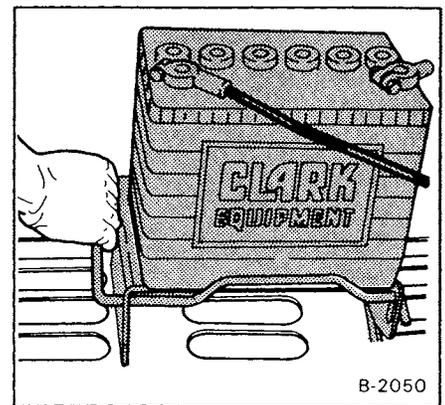
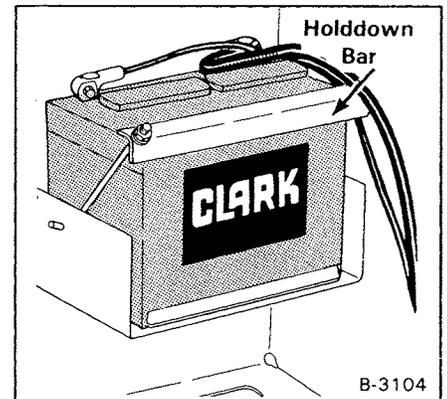

Fig. 1-24 Removal of Battery (Early)
Fig. 1-25 Removal of Battery (Current)
(1) Note the position of the positive terminal (+) and the negative terminal (-) of the battery. To remove the old battery, pull and lift up on the holddown lever (Fig. 1-24) or remove the two nuts and remove battery holddown bracket (Fig. 1-25).
(2) Clean the cable end connections with a wire brush.
(3) Place the new battery in the same position as the old battery. Fasten the holddown.
(4) Make certain that the battery terminals do not touch any metal holddown or other body metal.
(5) Connect the cable tightly. CONNECT THE GROUND CABLE LAST TO AVOID SPARKS.